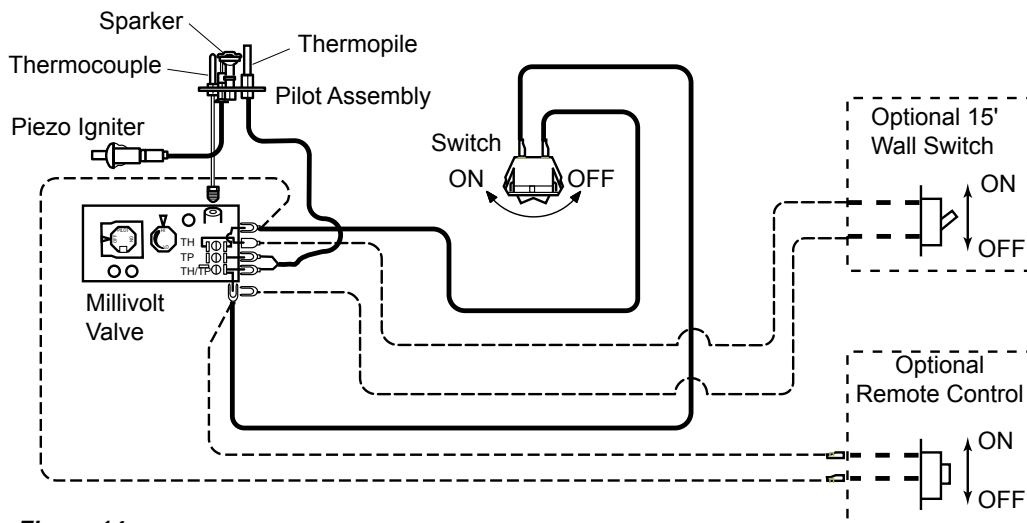

Figure 14 -
A remote wall switch and up to fifteen (15) feet of 18 Ga. wire may be used with this appliance. Attach the wall switch in a junction box at the desired location on the wall. *Figure 14.*